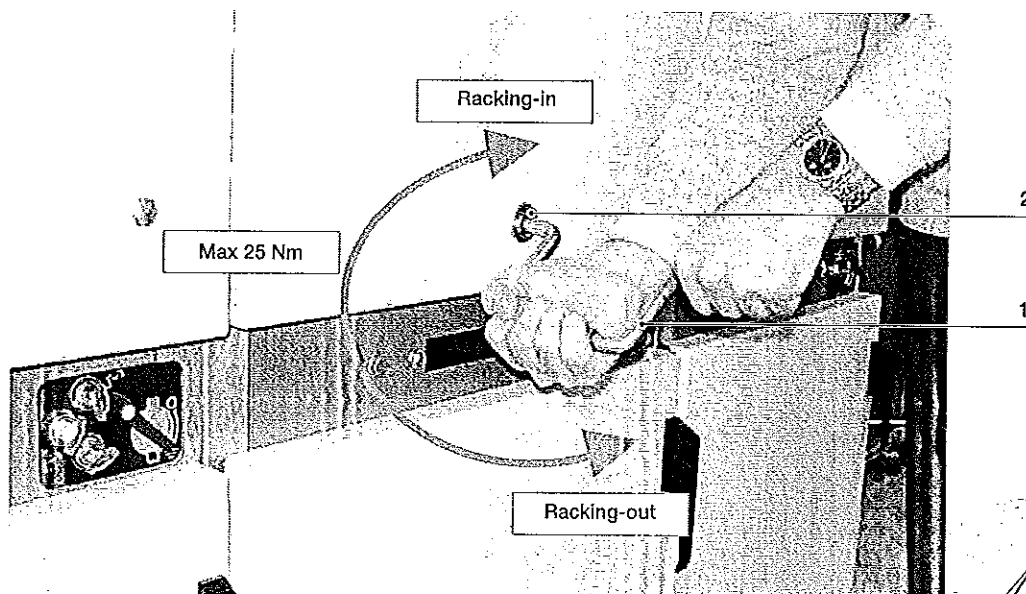

Fig. 9
For racking-in/racking-out of the switchgear, fully insert the lever (1) (fig. 9) in the appropriate seat (2) and work it clockwise for racking-in, and anti-clockwise for racking-out, until the limit switch positions are reached.
- Insert the manual racking-in lever (1) in the special coupling (2) Fig. 9, and take the motorized truck to about half its run between the isolated for test and the connected position. The torque needed to carry out truck handling is  $\leq 25$  Nm. In the case of accidental inversion of the truck motor power supply polarity, this operation allows a possible error in direction to be dealt with without any damage. Verification checks:
- Remove the manual lever (1) from the coupling (2) Fig. 9